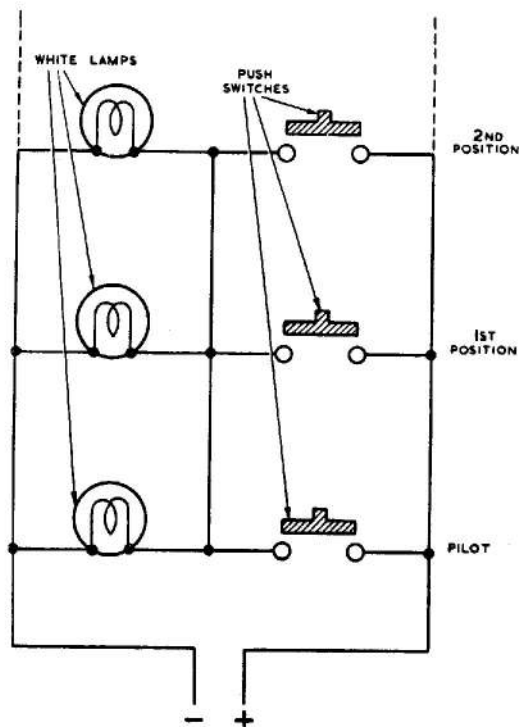

Fig. 3. Diagram showing operation of Inter-communication call-lamps
4. A diagram showing the operation of intercommunication call-lamps is given in fig. 3. When, for example, the pilot wishes to call up any member of the crew for telephonic